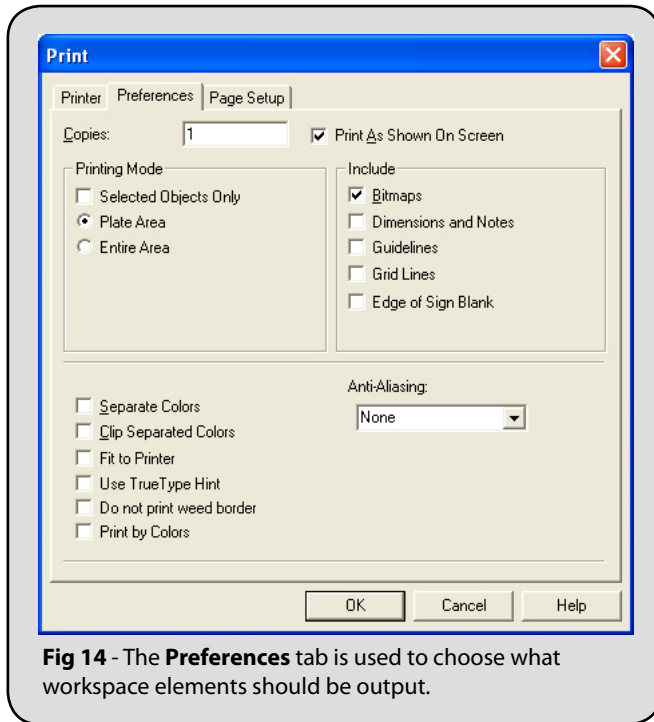

Fig 14 - The **Preferences** tab is used to choose what workspace elements should be output.
4. Click the **Preferences** tab. (Fig 14)